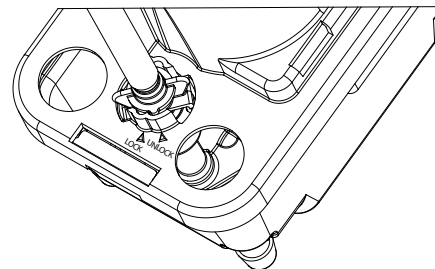

Fig. 3 (EN/FR/ES)
- Insert the check valve into the pump discharge hole and twist it by hand 1/4 turn (Fig. 3).